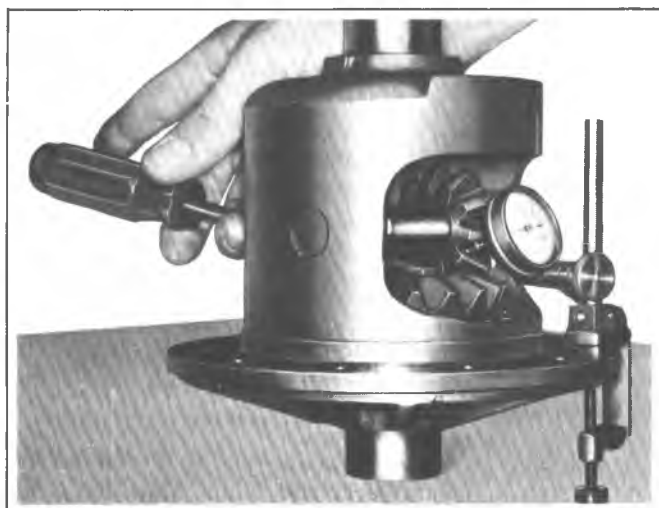

Fig. 10D--Measuring Pinion Gear Tooth Clearance
8. Install dial indicator in case so that contact button rests against pinion gear as shown in figure 10D.